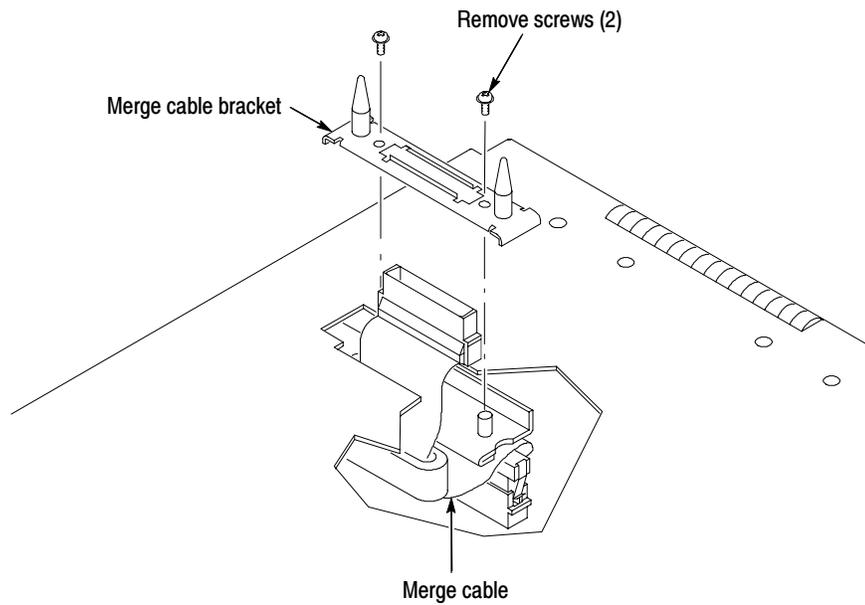

Figure 22: Feeding the merge cable through the cover
9. Replace the cover while feeding the merge cable through the hole in the cover (see Figure 22).